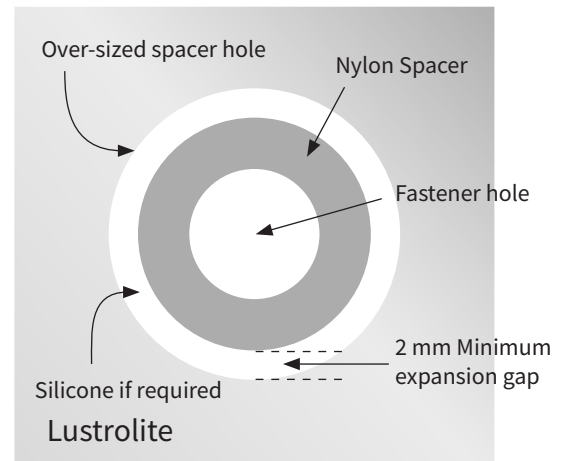

Figure 26a: Hole Layout for Spacers and Fixture Fasteners
- Holes must allow for approximately 2mm expansion clearance between the spacer and Lustrolite (Figure 26a)